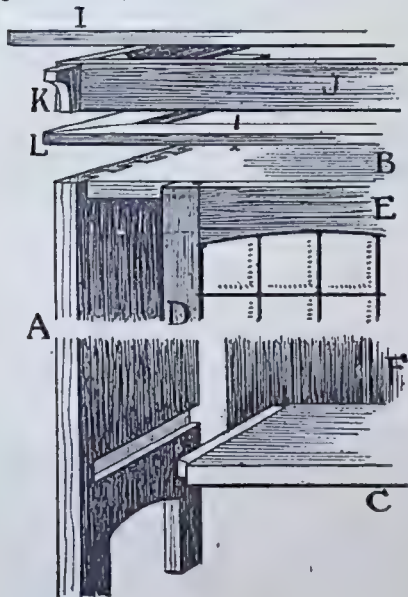

FIG. 2.—METHOD OF PUTTING TOGETHER.
SIDES.—Proceeding to get out the stuff the carcass sides (A, Fig. 2) will require glue jointing up to 20 ins. wide, or 18 ins. wide may be made to serve satisfactorily. The wood should finish not less than $\frac{7}{8}$ in. thick, and a length of 6 ft. will allow a trifle for levelling, should this be necessary after the trial fit-up. The top edge, after being carefully squared, will be slotted for the dovetail pins on B to enter, and at the lower end (about 9 ins. from ground) the sides are indicated as dovetail-grooved for the bottom (C) to enter. Below this the sides are cut out to a height of 5 ins. to 6 ins. to the shape shown as a relief from plainness. The spring of the arch should be kept somewhat flat, and the leg supports thus formed would be 4 ins. wide. The back edges of sides should also be rebated for the carcass back to enter. If the doors are to be hinged on the ends (*i.e.*, on to the face edge of sides, so that they pivot on the outer edge and open clear of the carcass interior) the sides may be 19 ins. wide only.
CUPBOARD TOP (I., Fig. 2) can be got out to finish 3 ft. 2 ins. by 1 ft. 11 ins. by $\frac{3}{4}$ in., this allowing for a projection of 3 ins. in front beyond the face of carcass and 1 in. over each side. The edge is shown square, but may have the under edge bevelled away, in which case the brackets can be eased in size to fit close up to the bevel.